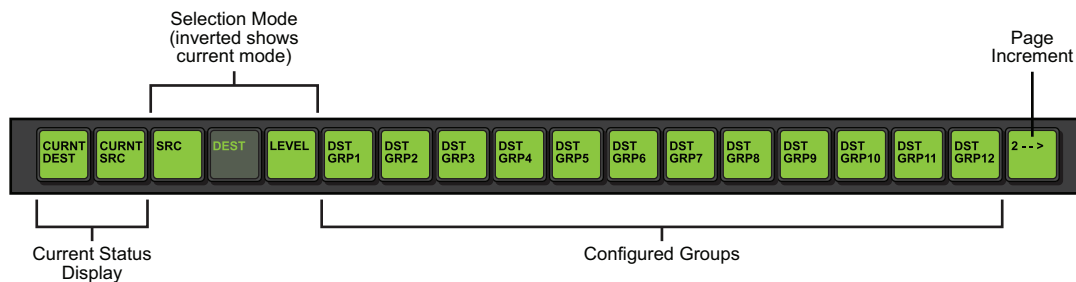

Figure 10.3 RCP-QE18 — Example of Group Categories
**Figure 10.3** illustrates an RCP-QE18 with a top page displayed showing configured groups.